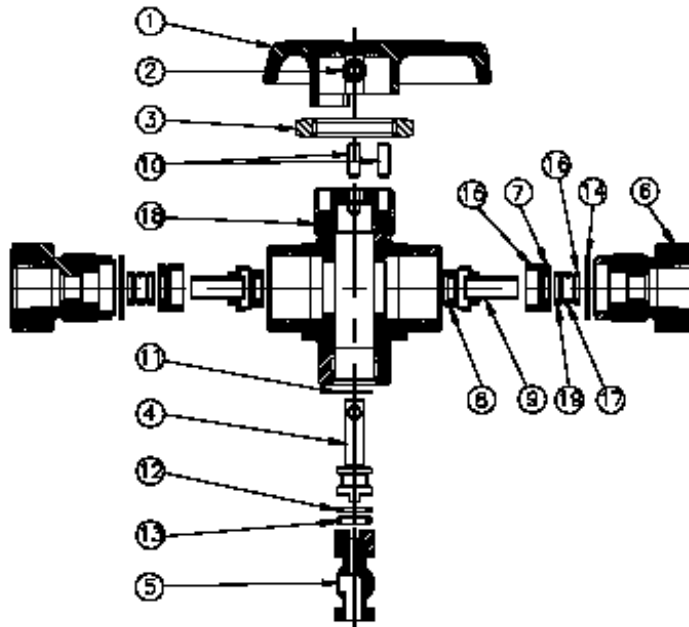

Figure 2: HB Series Ball Valve Exploded View
10. Refer to Figure 2: Gently remove all Stem Seals, Seat Assemblies, and Seat Retainer seals (8,9,12,13,14,16,17, and 19)